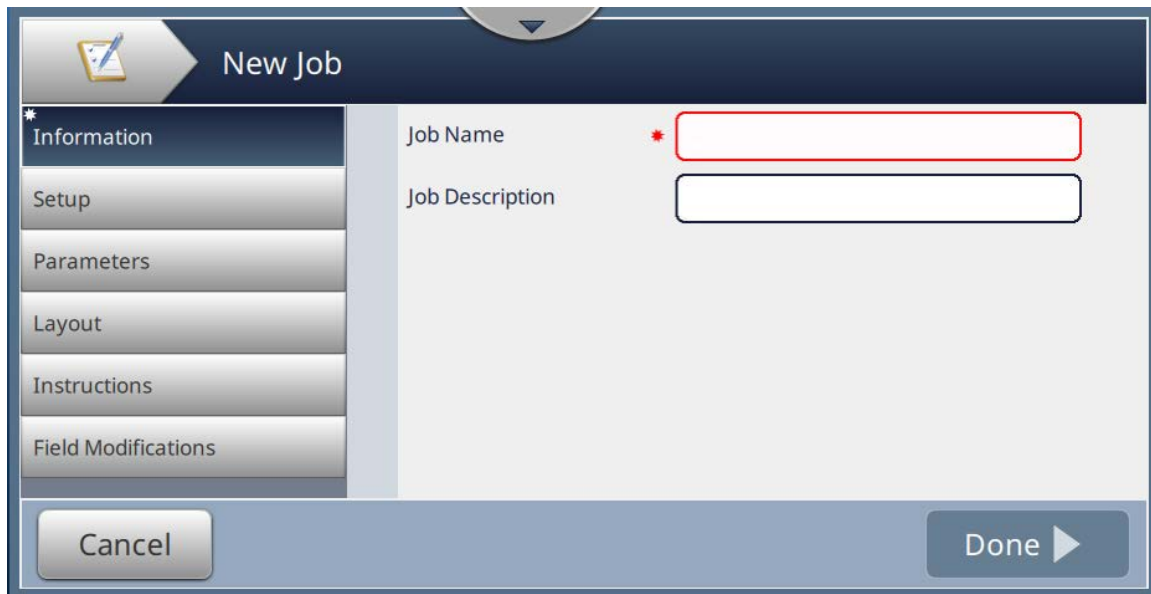

Figure 5-2: Information Screen
2. Touch the  button to create a new job. The Job Settings screen opens as shown in Figure 5-2.
The Information screen (Figure 5-2 on page 5-2) allows the user to do the following: